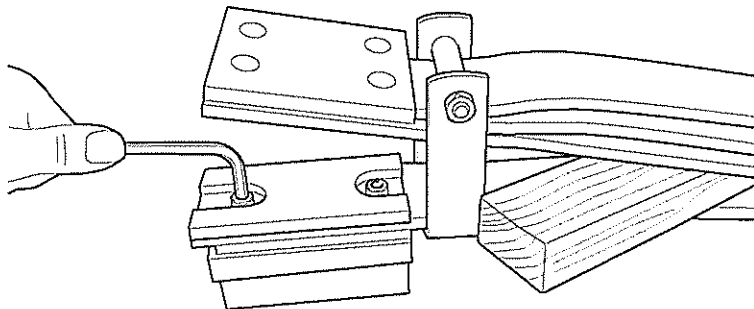

Fig 4 Spring seat
- 4.6 Clamp leaf spring in vice, insert suitable wedge between third and fourth leaf springs and open as far as possible (see Fig 4).